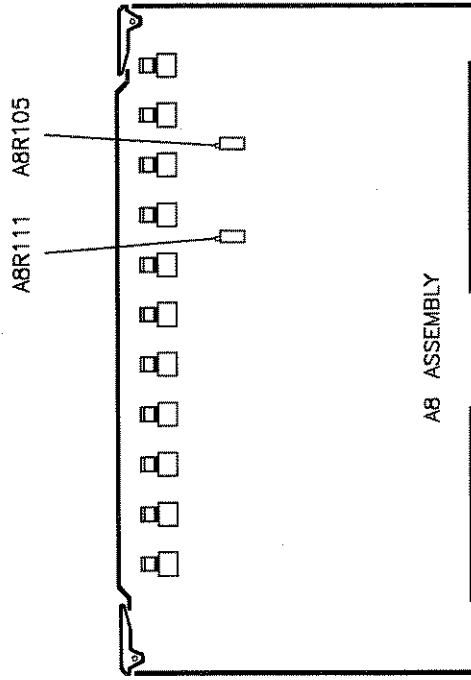

Figure 3-27. A8R111 and A8R105 Adjustment Locations
4. Adjust A8R111 (see Figure 3-27) to center the "needle" on the display.
6. Adjust A9R105 (see Figure 3-27) to center the "needle" on the display.